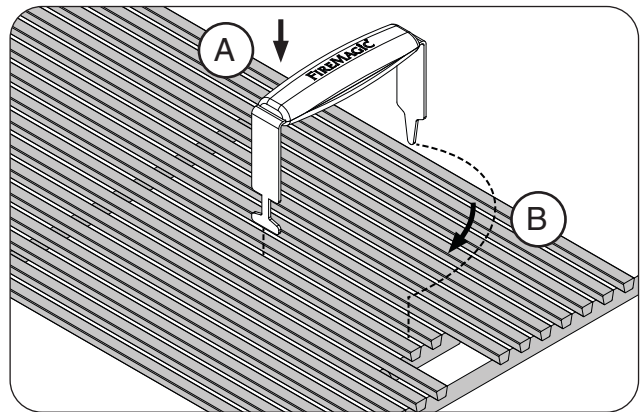
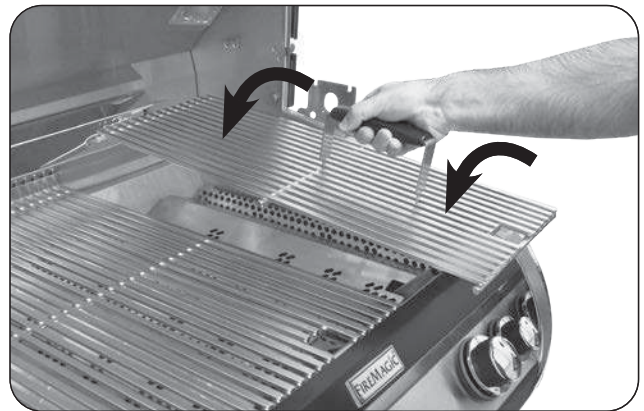

Fig. 23-2 Install cooking grids
Fig. 23-3 Install cooking grids
1. With the prongs facing downward, insert the notched-end of the lifter between two grid rods, then rotate, as shown in Fig. 23-2, A & B.
2. Insert the rear pointed-end of the lifter between the same two rods (Fig. 23-2, B) and carefully lift the cooking grid and place onto the front and rear grid rests of the grill (see Fig. 23-3). Repeat for all other cooking grids.